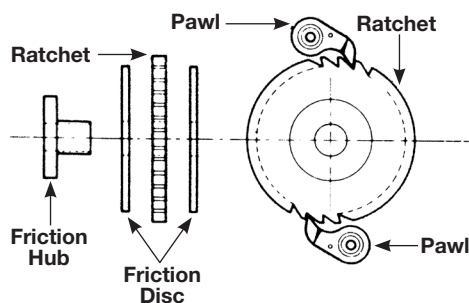

Figure 8 - Brake Assembly
1. Thread the friction hub (11) onto the pinion shaft (7) and assemble the friction discs and the ratchet on the friction hub (See Figure 8). Place the spring (6) over the friction hub and pinion. Place the brake cover assembly (14) on the frame and thread the lever ratchet (33) onto the pinion shaft. Firmly seat the lever ratchet and secure the brake cover assembly to the frame using the four nuts (9).